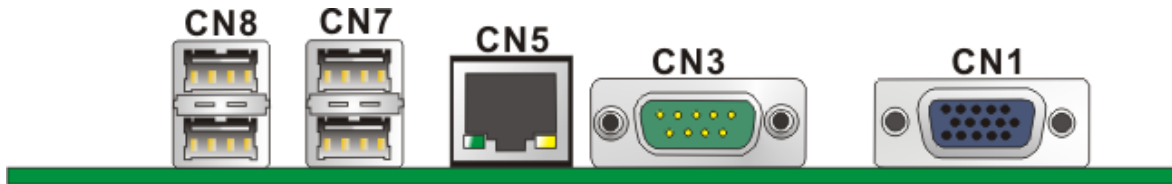

Figure 4-20: WAFER-LX2 On-board External Interface Connectors
The WAFER-LX2 external peripheral interface connectors are listed below and shown in Figure 4-20:
CN Location:	See Figure 4-20
- CN Location:** See **Figure 4-20**
- CN Location:** See Figure 4-20
**CN Location:** See **Figure 4-20**